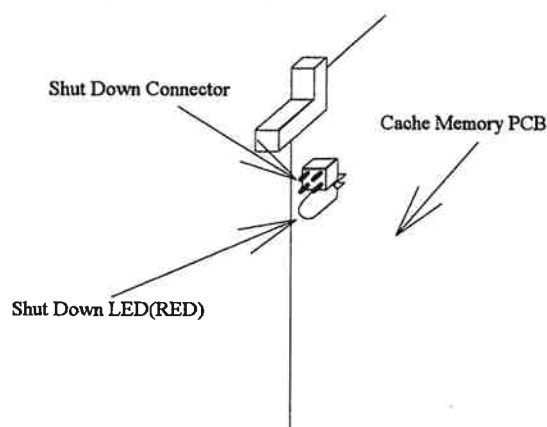

Fig. 3.3.7.4.2-9 Location of the Shut Down LED
- a. While referring to Fig. 3.3.7.4.2-9 and Table 3.3.7.4.2-9, check the Shut Down LED on the Cache Memory PCB in the Logic Box. See "Connection of Shut Down Jumper (INST03-2600)" if Shut Down LED is not on. (This procedure [1. a.] is not valid for a New Installation.)